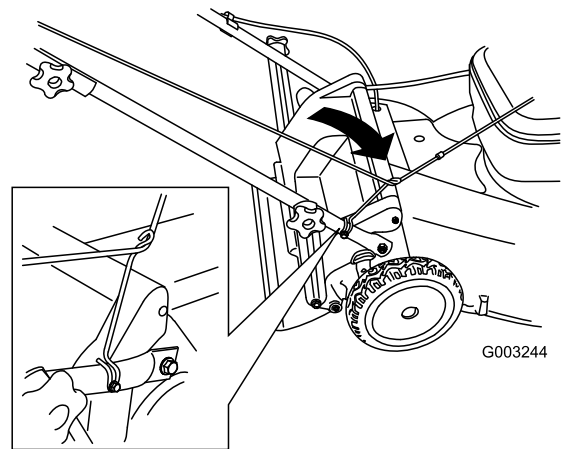

Figure 24
3. Route the starter rope around the lower rope guide (Figure 24).